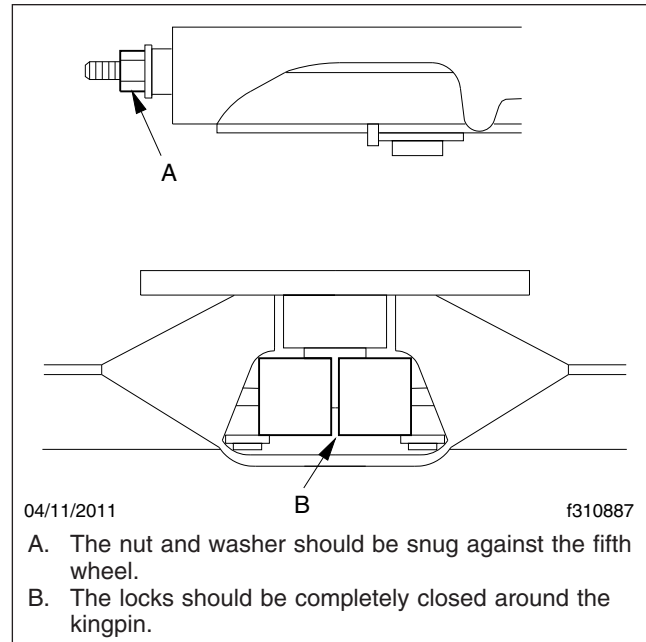

Fig. 3, Holland Fifth Wheel Properly Closed
3. Remove the reservoir lid (see Fig. 3) and install the pressure bleed adaptor on the reservoir.
2. Remove the reservoir lid and fill the reservoir (see Fig. 3) with new DOT 4 brake fluid from a tightly sealed container.
6. Using a Holland Kingpin Lock Tester (Holland tool number TF-TLN-5001, available through the PDCs as HLD TFTLN5001), check the operation of the locking mechanism by opening and closing the locks. See **Fig. 3**.